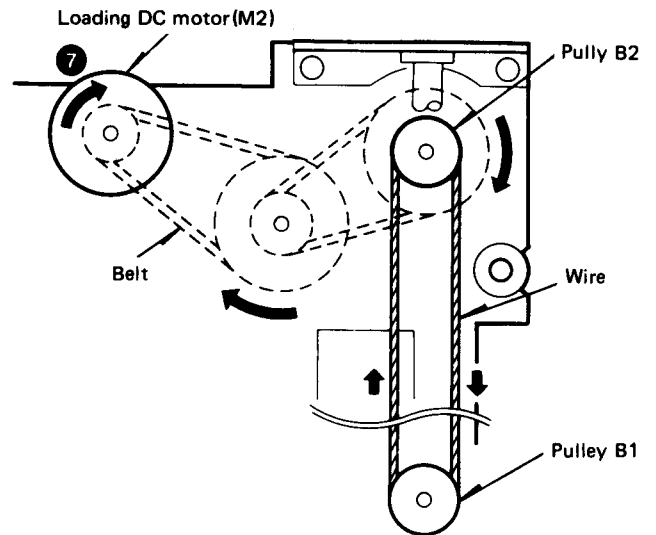

Fig. 10 Tray OPEN operation (3)
Subsequently, S1 (clamber UP switch) turns ON by the groove at the upper side of the main gear, and the loading DC motor (M2) rotates in the direction of arrow (7) to pull the wire via the belt (Figure 10).